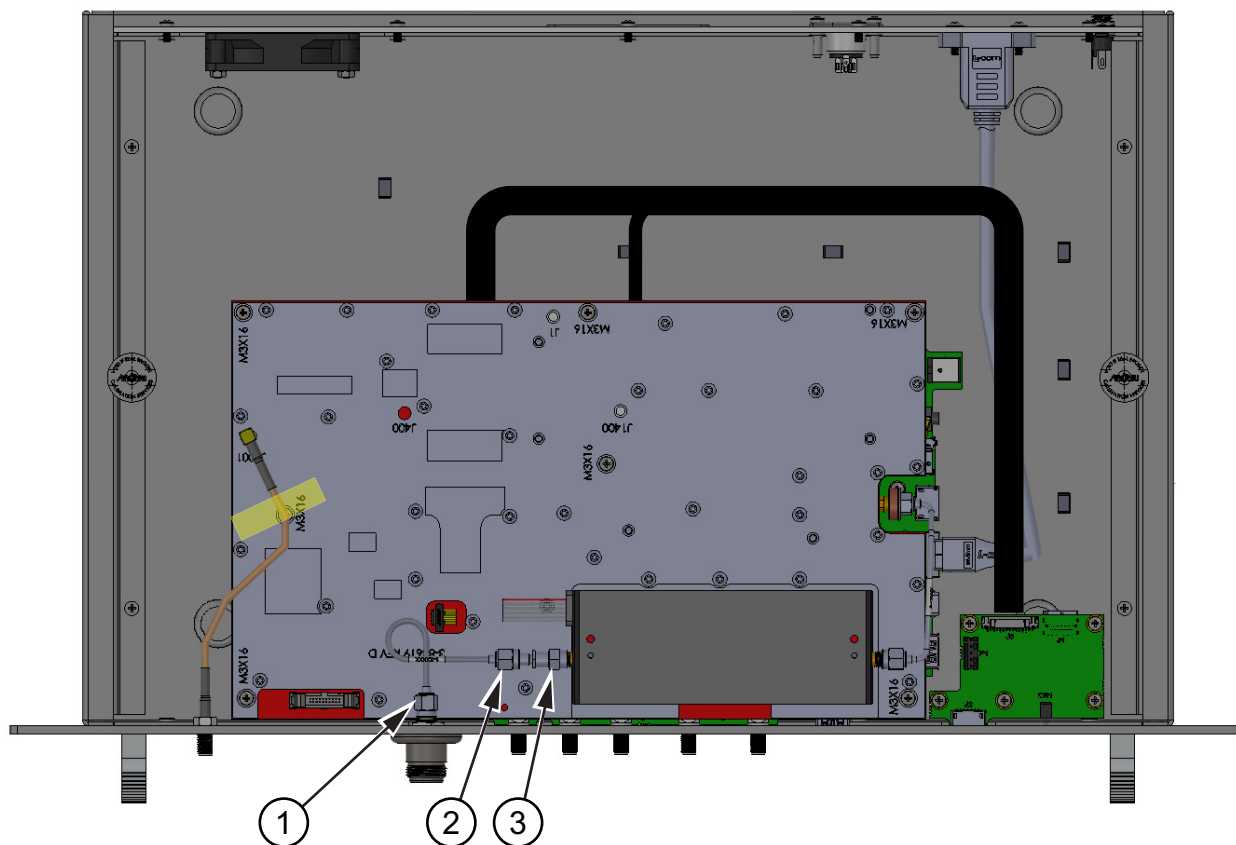

Figure 3-5. Semi-rigid Cable and DC Block Removal
2. Use a 5/16" wrench to disconnect the semi-rigid cable assembly from the front panel RF In connector shown at location 1, and from the step attenuator DC Block shown at location 2. See Figure 3-5.
3. Using a 5/16" wrench remove the DC block from the step attenuator shown at location 3. See Figure 3-5.